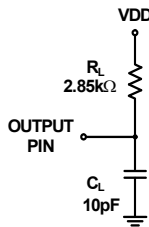

FIGURE 4. EQUIVALENT LOAD CIRCUIT
- 11. During characterization, t_{DISABLE} is measured from the release point with a 10pF load (see Figure 4) and the equivalent timing using the AD7440/450A loading (25pF) is calculated.